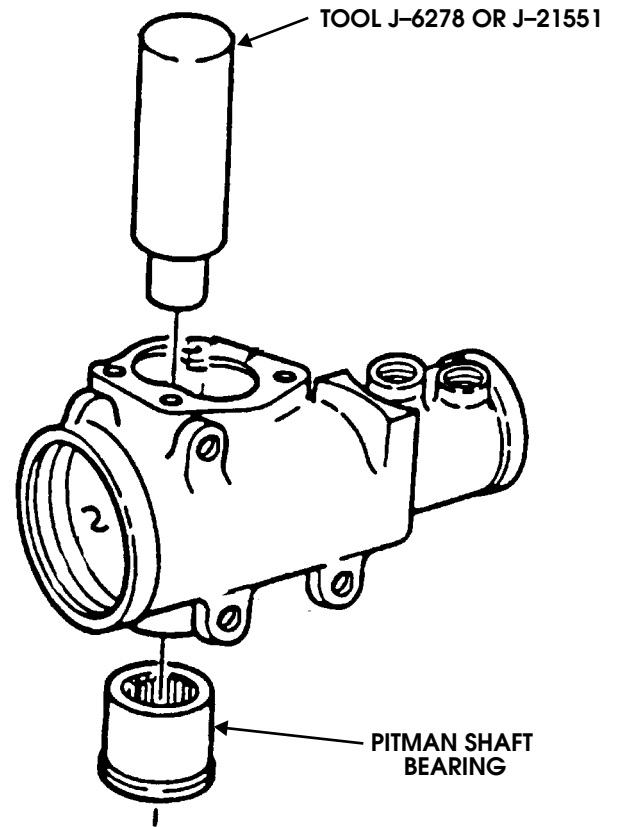

Figure 8-46: Pitman Shaft Bearing Removal
3. Remove seals, second backup washer, and bearing with tool J-6278 (Figure 8-46).